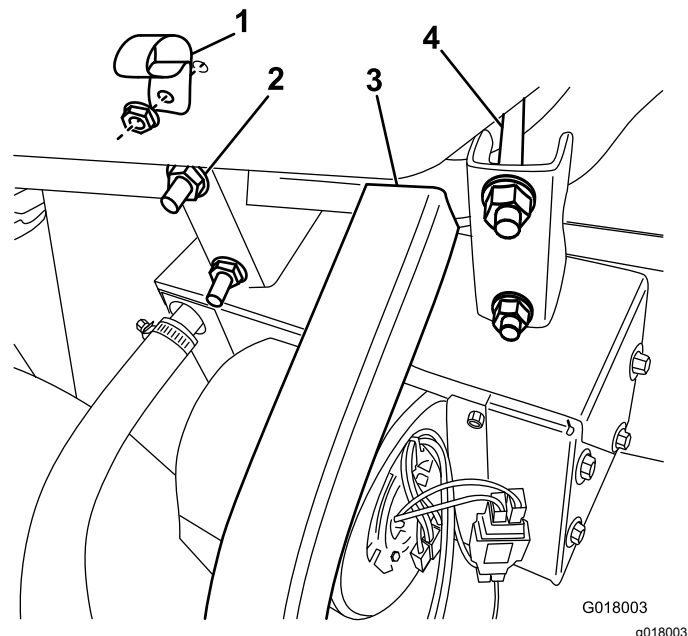

Figure 22
3. Attach the heater and bracket assembly onto the front frame tube, snug against the U-frame, using the U-bolts and flange nuts provided (Figure 22).
4. Attach the R-clamp to the glove box with a flange-head bolt and nut (Figure 22).